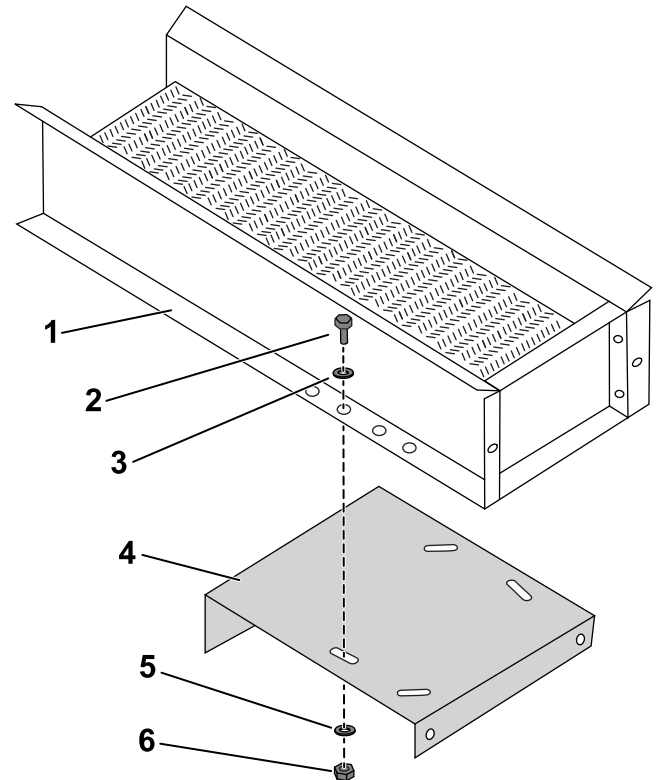

Figure 12
1. Use the existing hardware to secure the conveyor to the upper bracket (Figure 12).